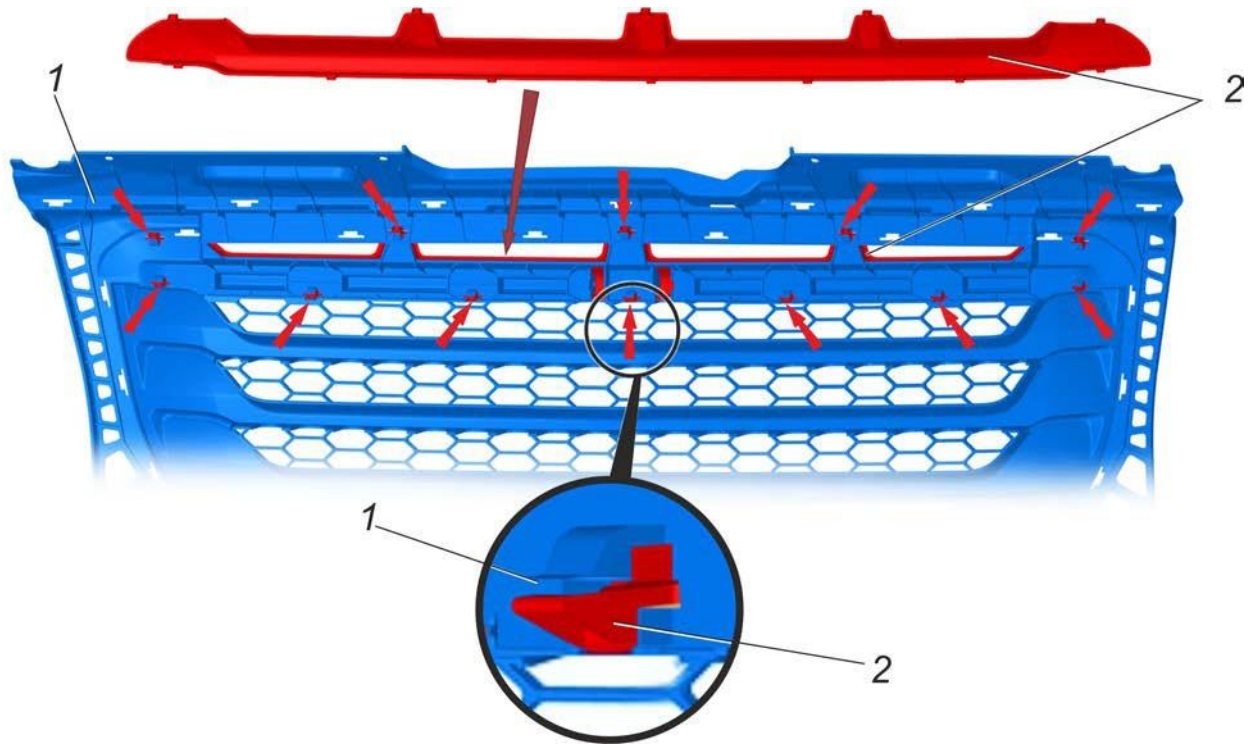

Fig. 8.14. Fasteners securing radiator grille molding to radiator grille: 1 – radiator grille; 2 – radiator grille molding
- disengage the radiator grille molding latches from the radiator grille and remove the molding. The fasteners securing the molding to the radiator grille are shown on Fig. 8.14;